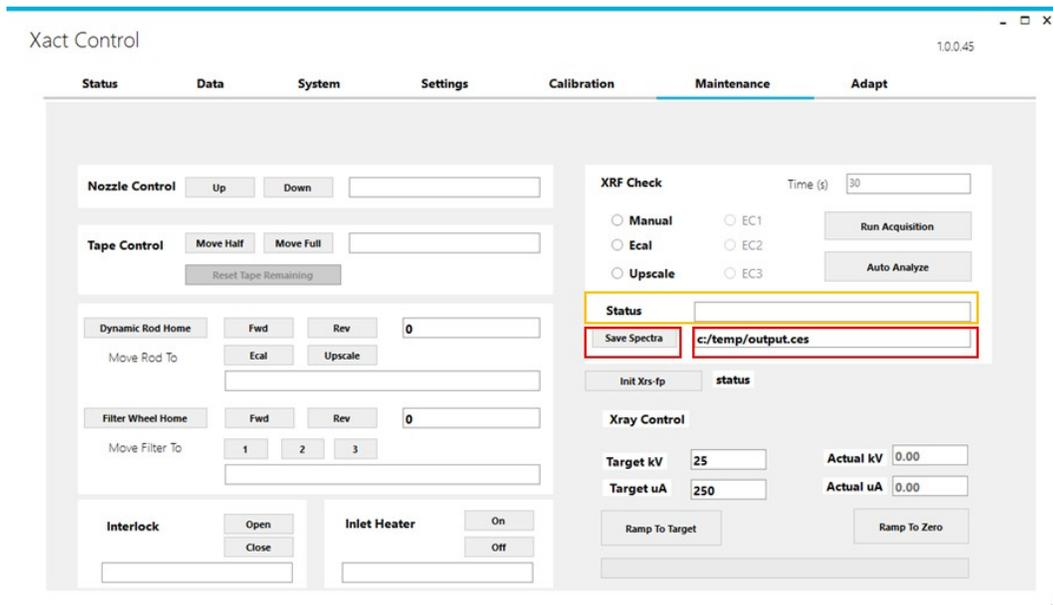

Figure 10.2: Settings for saving spectra.
10.2.5 After acquisition is completed, the 'Status' window of 'XRF Check' section will prompt to save the spectra. Enter the folder path, save the file with .ces extension (example: c:/temp/EC1_Blank.ces) and click "Save Spectra" (**Figure 10.2**).